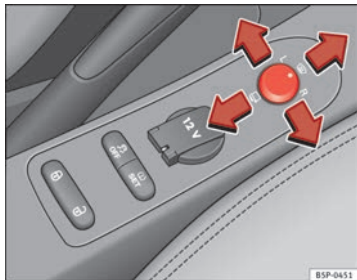

Fig. 89 Controls of exterior mirrors
1. Turn knob ⇒ fig. 89 to position **L (left exterior mirror)**.
- Turn the control ⇒ fig. 89 to position  to fold in the exterior mirrors. You should always fold in the exterior mirrors if you are driving through an automatic car wash. This will help prevent damage.